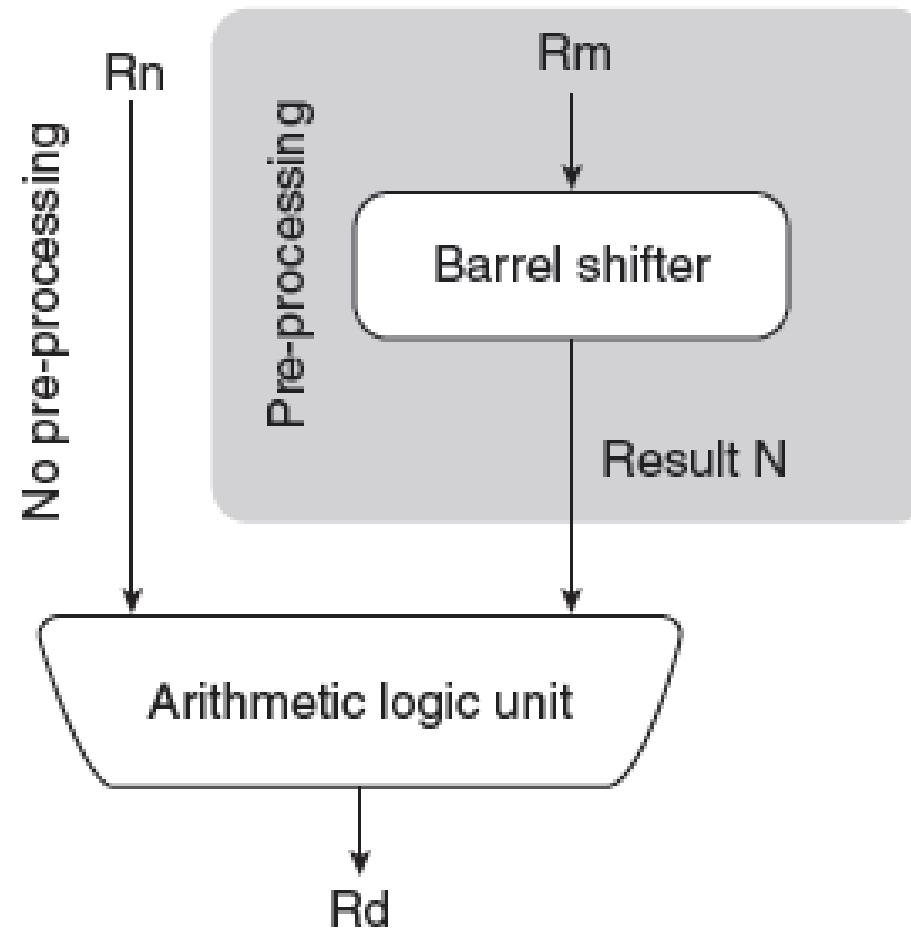

Figure 5.1 Barrel shifter in ALU
2. There is a barrel shifter in the ALU, as shown in Fig. 5.1. This means that one of the operands may be shifted/rotated. This is useful for simplifying some types of operations.